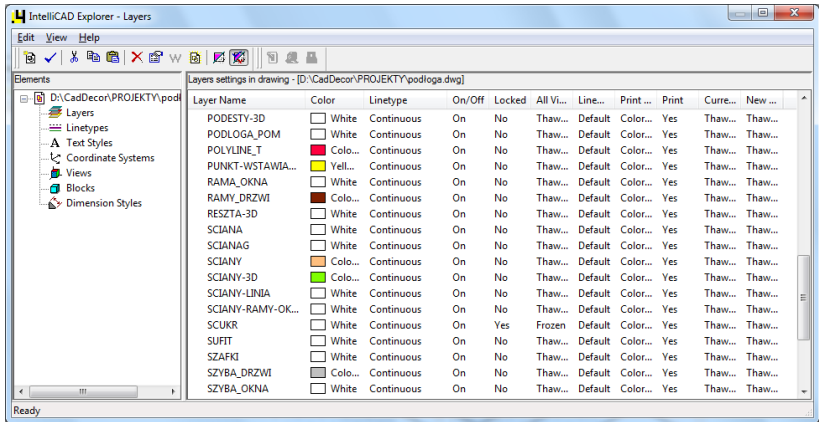

Fig. 115 – IntelliCAD Explorer – Layers
-  **Explore layers...** – opens the IntelliCAD Explorer with the **Layer Name** list displayed (Fig. 115); in which all settings for layers can be modified;